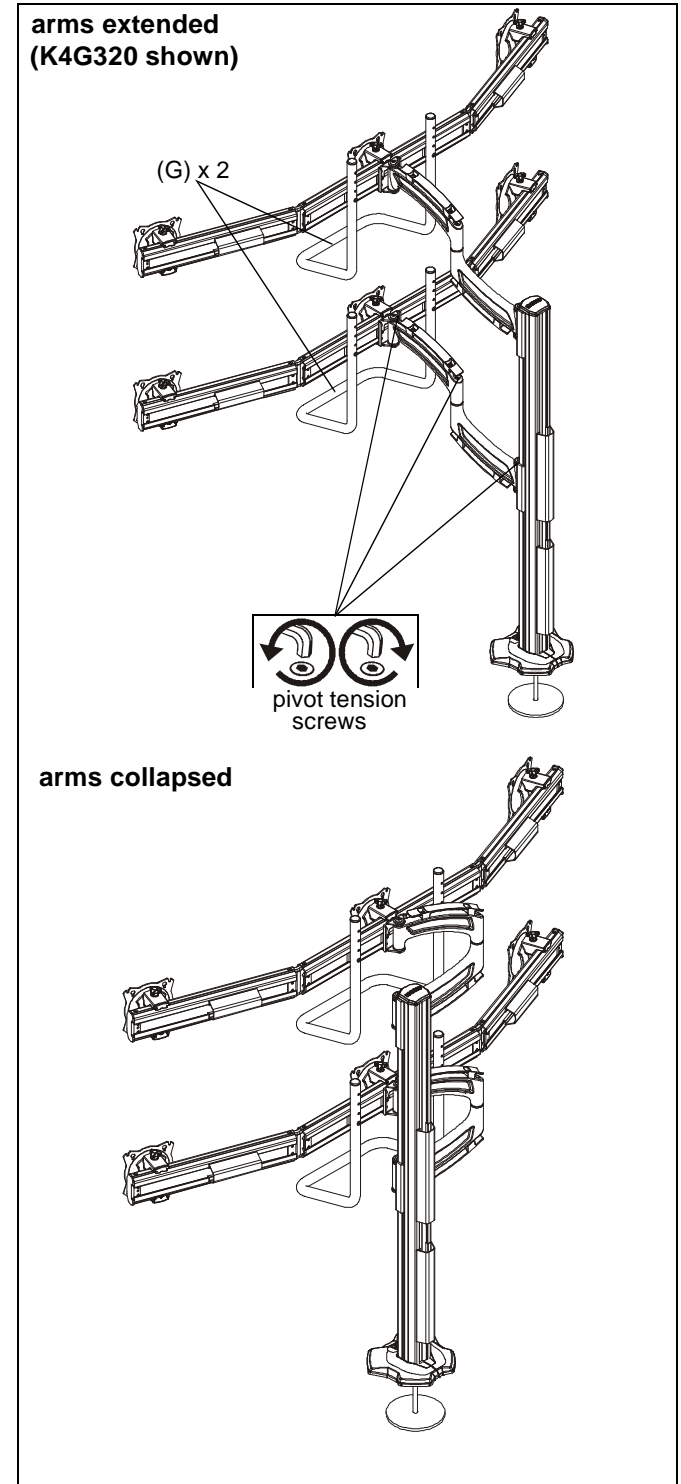

Figure 12
1. Use handles (G) to extend or collapse column arms as desired. (See Figure 12)
2. (Optional) Loosen or tighten column arm pivot tension screws as desired to increase or decrease pivot tension. (See Figure 12)